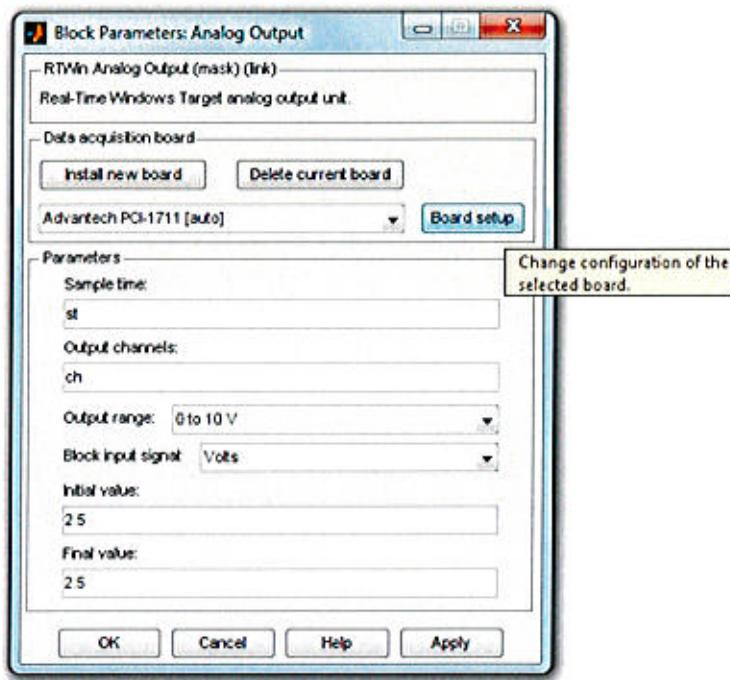

Figure 43 Feedback DAC Block - Selecting the I/O Card
- If we run the PCI-1711 card experiment for the first time we can double click on the Analogue Output block and register the PCI-1711 card in the Matlab environment (Figure 43).